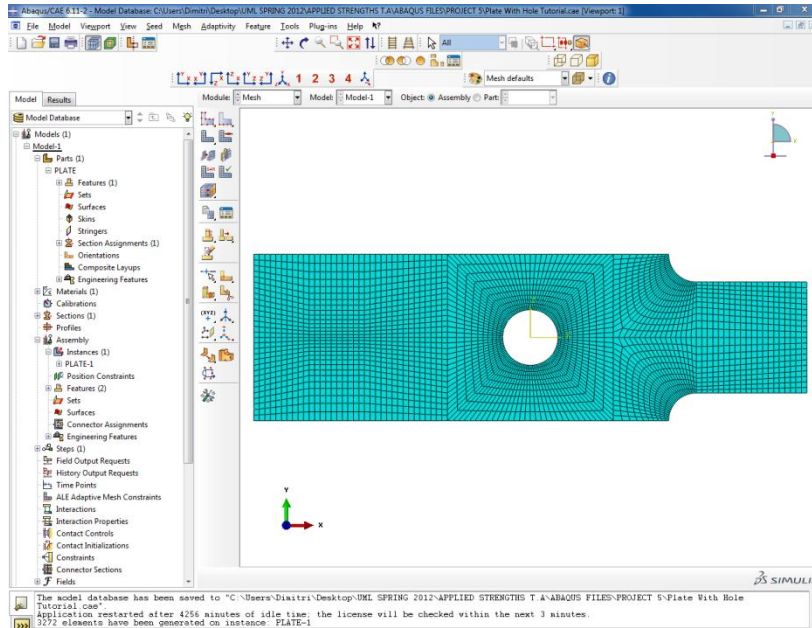

Figure 22. Meshed Part
- Click **Yes**. If the mesh has been generated properly, the part should look similar to Figure 22.